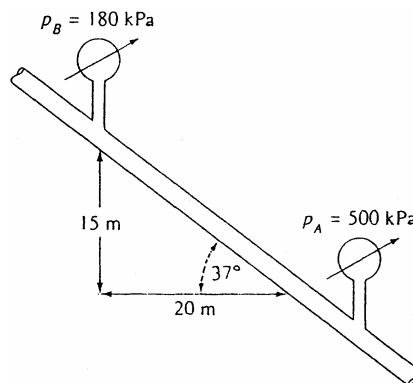

Fig. P6.32
6.32 SAE 30 oil at 20°C flows in the 3-cm-diameter pipe in Fig. P6.32, which slopes at 37°. For the pressure measurements shown, determine (a) whether the flow is up or down and (b) the flow rate in m^3/h .